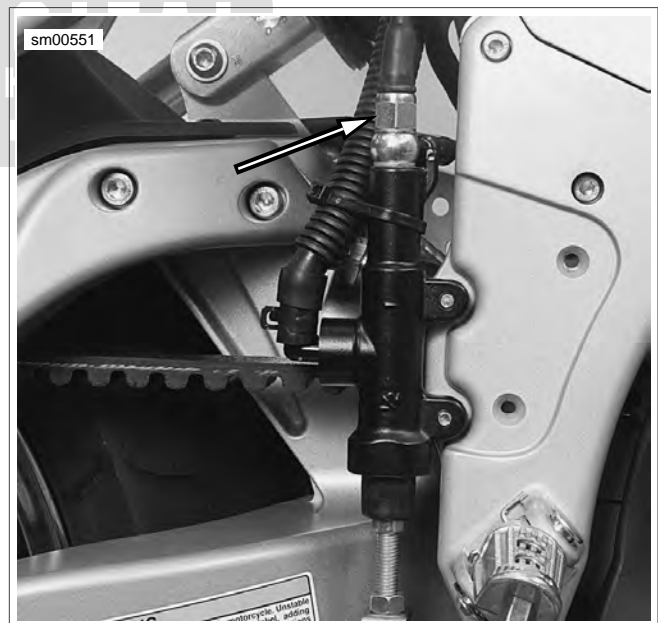

Figure 2-76. Rear Brake Light Switch/Banjo Bolt
8. Remove banjo bolt (3) from rear caliper. Discard copper washers.
9. See Figure 2-76. Remove brake light switch/banjo bolt from rear master cylinder. Discard copper washer.
1. See Figure 2-76. Install brake light switch/banjo bolt with new copper washers to the master cylinder. Tighten to 16-20 ft-lbs (22-27 Nm).
7. See Figure 2-76. Remove p-clamp (2) securing brake line (1) to the left side of swingarm.
9. See Figure 2-76. Remove brake line switch/banjo bolt from rear master cylinder. Discard copper washer.
- See Figure 2-76. Install brake light switch/banjo bolt with **new** copper washers to the master cylinder. Tighten to 16-20 ft-lbs (22-27 Nm).
- See Figure 2-76. Connect brake line switch connector underneath seat.